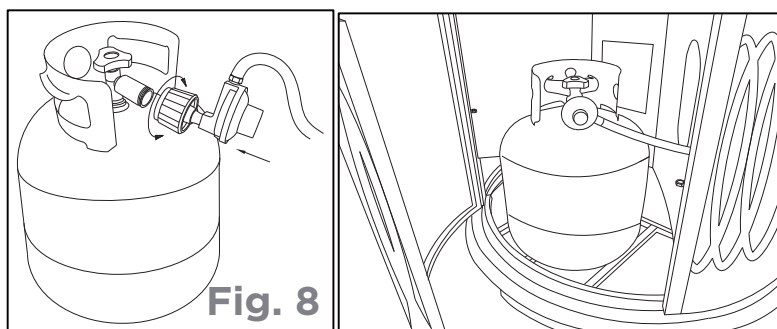

Fig. 8
3. Connect the regulator and the cylinder as per Fig. 8. Make sure there is no leakage or damage (please refer to Leak Test on page 10 and how to check for damage on page 5).